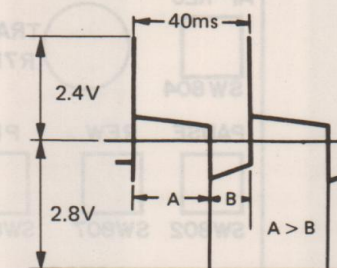

Figure 51
- ① Place the VTR in the VS-FWD mode.
- ② In the same way as was done for the Capstan lock adjustment (4), observe and regulate the voltage at TP7 of the Main Servo IC (I704).
- ③ Fine adjust the Capstan Lock (VS-F) VR in the power supply hybrid IC so that the voltage at TP7 is as shown in Fig. 51.